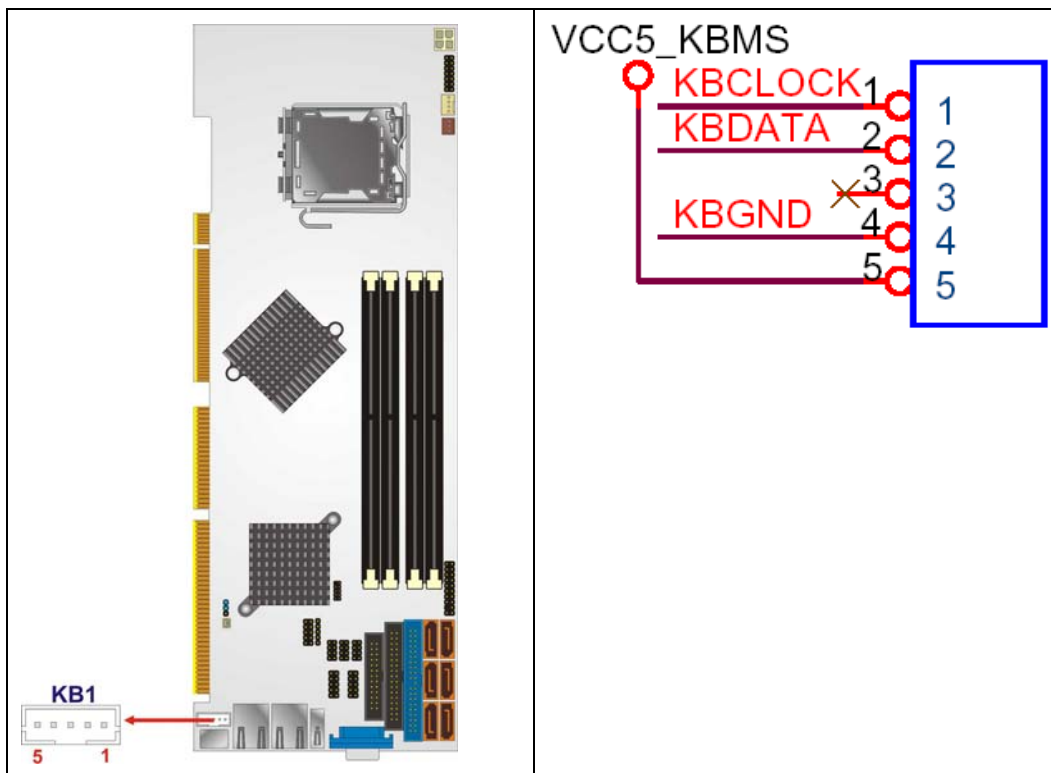

Figure 4-10: Keyboard Connector Location
- CN Location:** See **Figure 4-10**